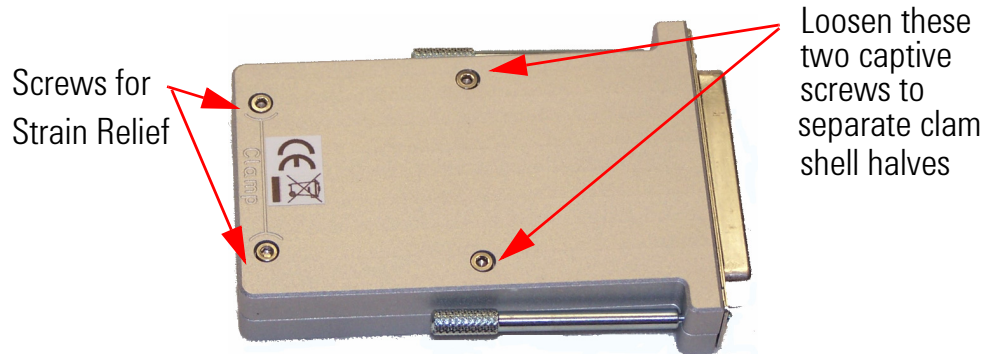

Figure 6 Disassembling the Terminal Block Clam Shell
- 1 Loosen the two screws indicated in Figure 6. These screws are captive to the bottom half of the clam shell. Note: the other two screws are for the strain relief.